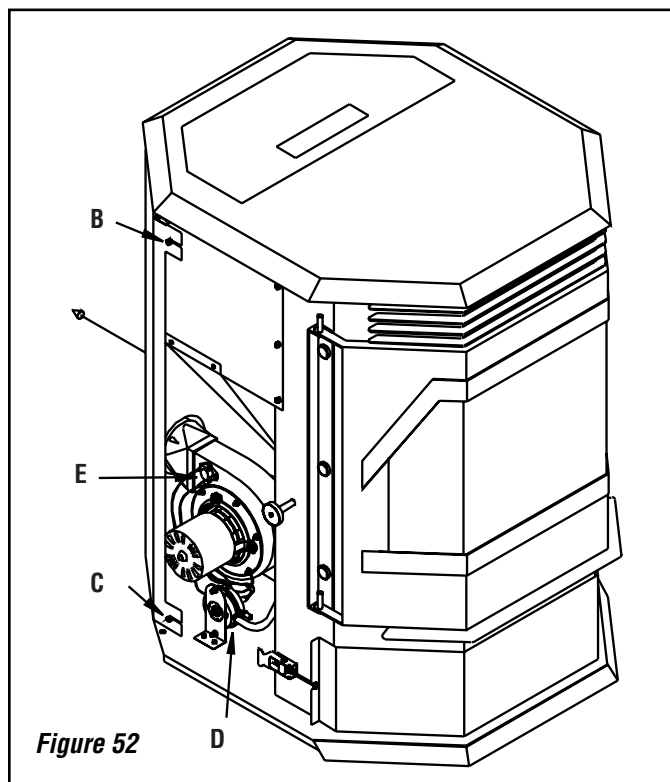

Figure 52
2. Locate the switch on the combustion blower (see **Figure 52**).
3. Loosen the two screws B and C shown in **Figure 52** and the corresponding two screws on the other side of the stove. The back can now be pulled to the rear and off of the stove.
The Winslow PS40GL stove has a vacuum switch located behind the left door, fastened to the pedestal base (see D in **Figure 52**). If a low pressure is created in the firebox by a leak, opening the front door, a blocked flue, or unsealed ash drawer, the vacuum switch will sense it and cause the stove to go into a shutdown mode.
(Closes at 140°F) This switch is installed on the combustion blower (see E in **Figure 52**) and shuts the stove down if it senses no fire in the Burn-Pot.